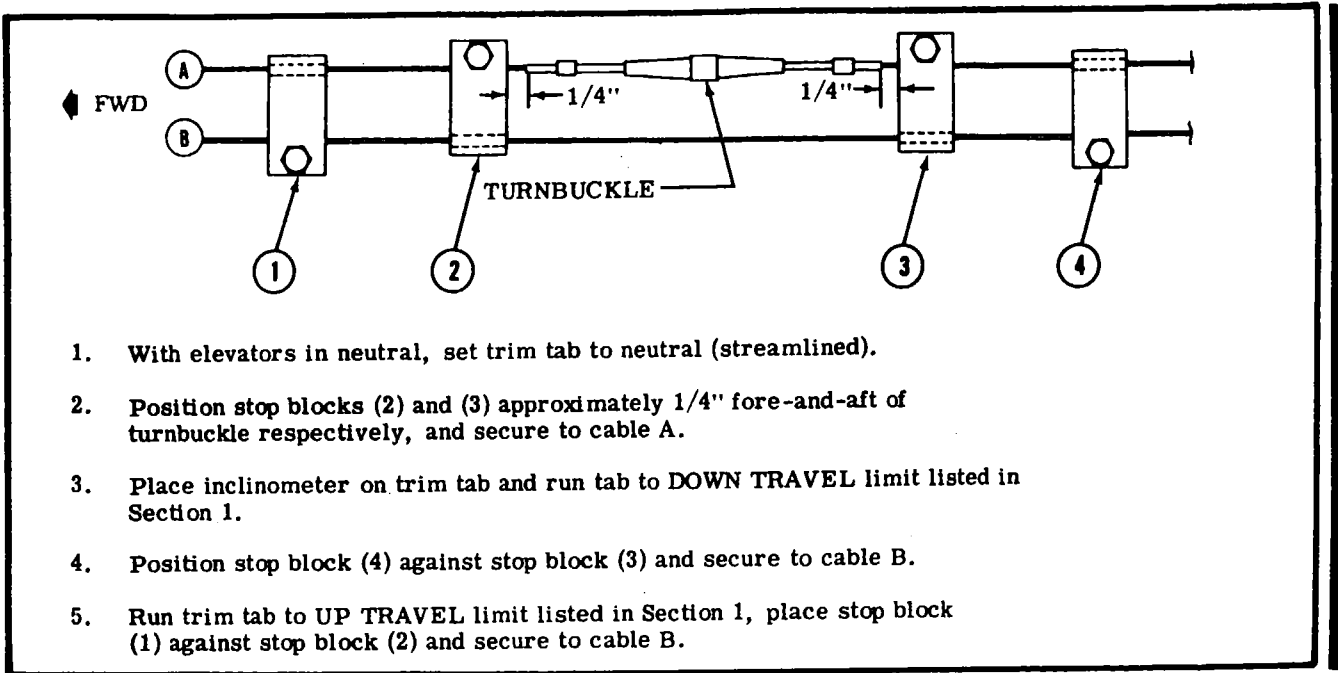

Figure 9-2. Elevator Trim Tab Travel Adjustment
- i. Position stop blocks (10) and adjust as illustrated in figure 9-2 to limit travel as outlined in Section 1.